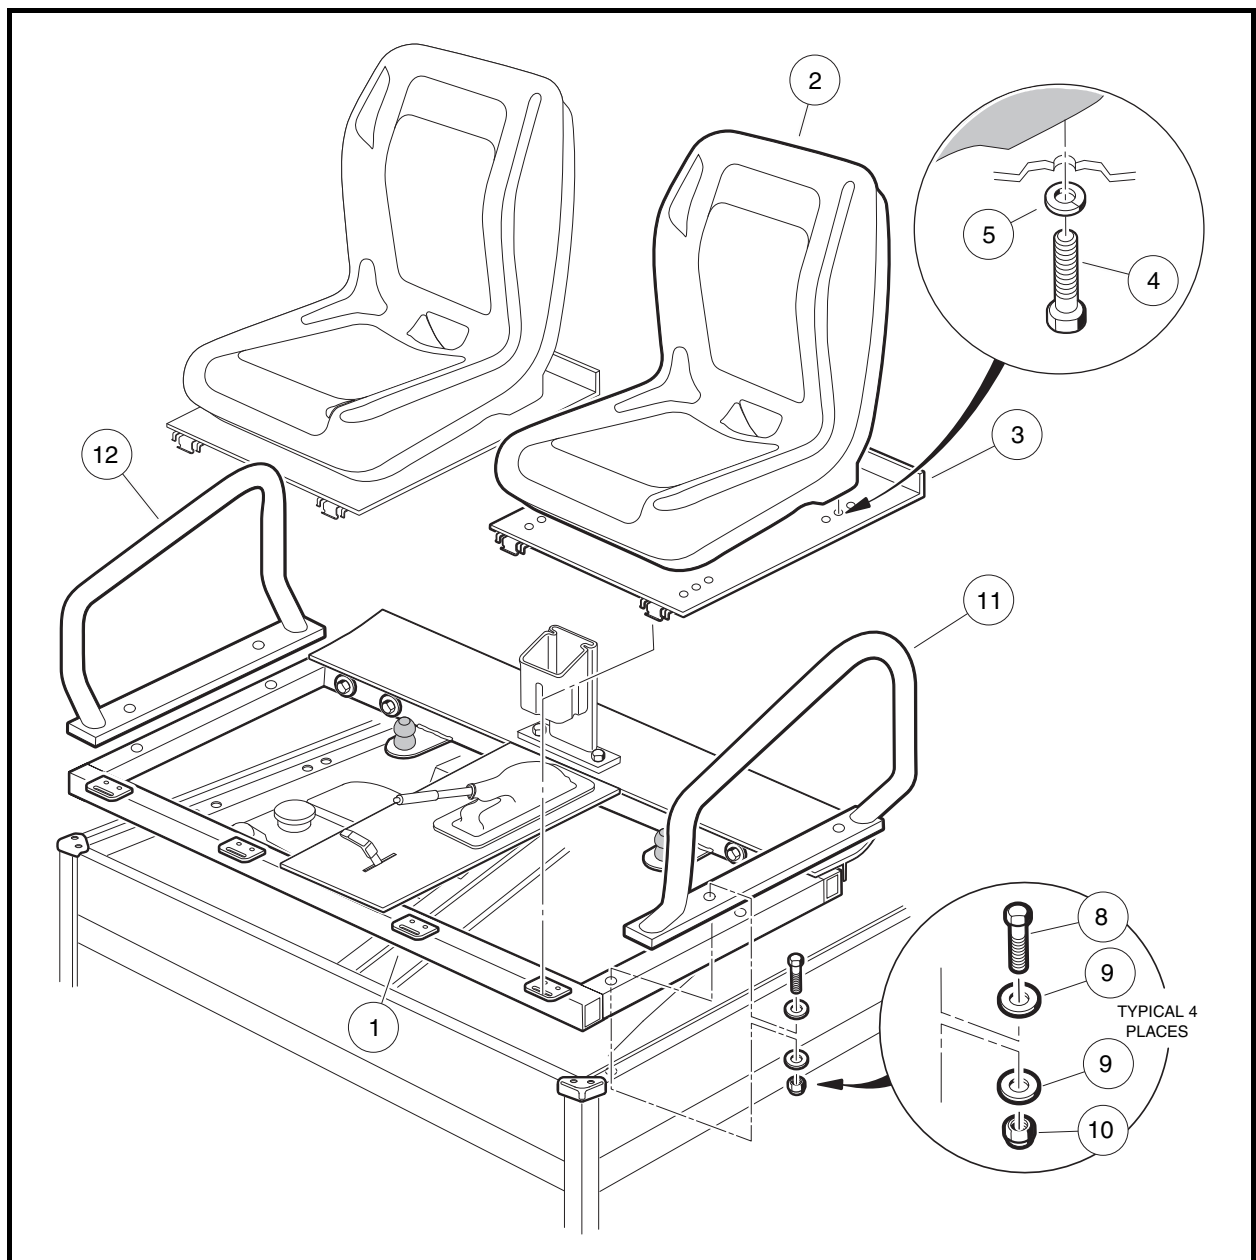

Figure 4-3 Front Seat Support
1. Remove seat (2) from vehicle.
2. Disassemble seat (2) from seat panel (3) by removing four bolts (4) and lockwashers (5) (**Figure 4-3, Page 4-8**).
3. Adjust seat to preferred position. Align holes in seat panel (3) with holes in seat (2) and secure with four bolts (4) and lockwashers (5). Tighten bolts to 96 in-lb (10.8 N·m). **See following WARNING.**
1. Completely remove both front seats (2) from the vehicle (**Figure 4-3, Page 4-8**).
4. Remove four hex-head bolts (8), eight washers (9) and four locknuts (10) from the seat support (**Figure 4-3, Page 4-8**).
5. Remove the two armrests (11 and 12) from the seat support (1).
6. Lift seat support (1) from vehicle.
1. Reverse the front seat support removal process (**Figure 4-3, Page 4-8**).
2. Assemble bolts (8), washers (9), and locknuts (10) to seat support and armrests (11 and 12) and tighten bolts (8) to 13 ft-lb (17.6 N·m). **See following WARNING.**